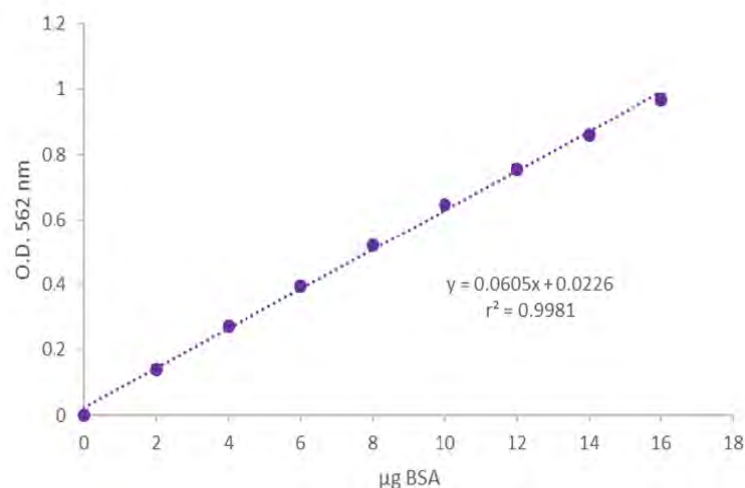

Figure 3. Typical standard curve using the microplate procedure
4. Standard curve example for microplate assay procedure is shown in Figure 3.